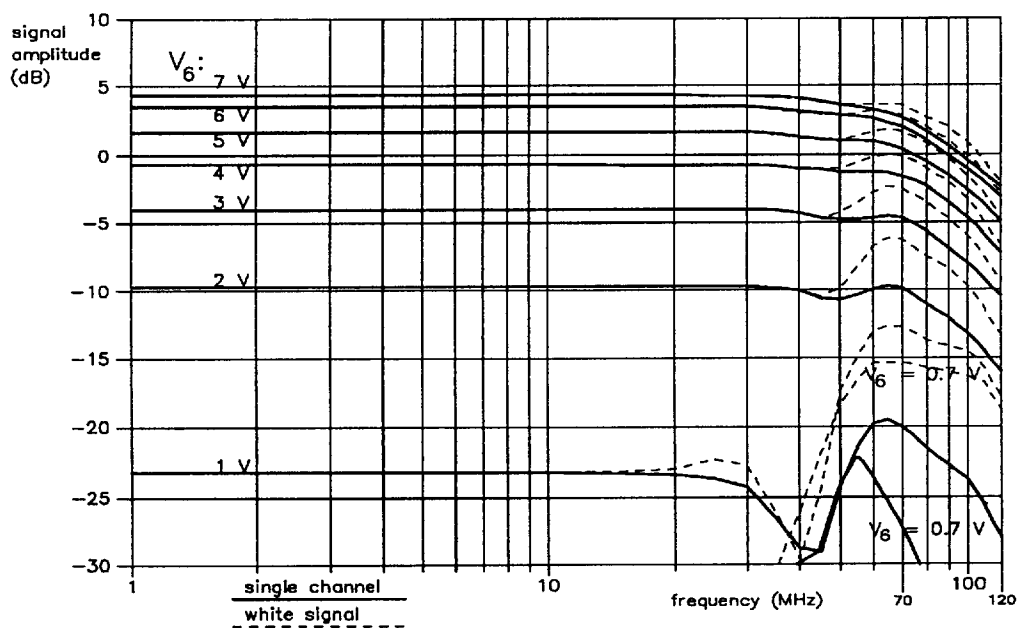

Fig.12 Typical characteristic of contrast control versus frequency.
14. Frequency response, crosstalk and pulse response have been measured at voltage outputs in a special printed-circuit board with 50  $\Omega$  line in/out connections and without peaking (see TEST PCB). Typical frequency response see Fig.10, typical pulse response see Fig.11 and typical characteristic of contrast control versus frequency see Fig.12.